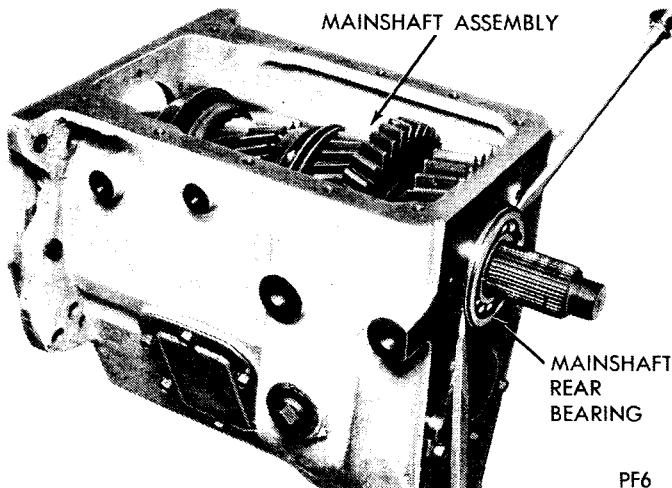
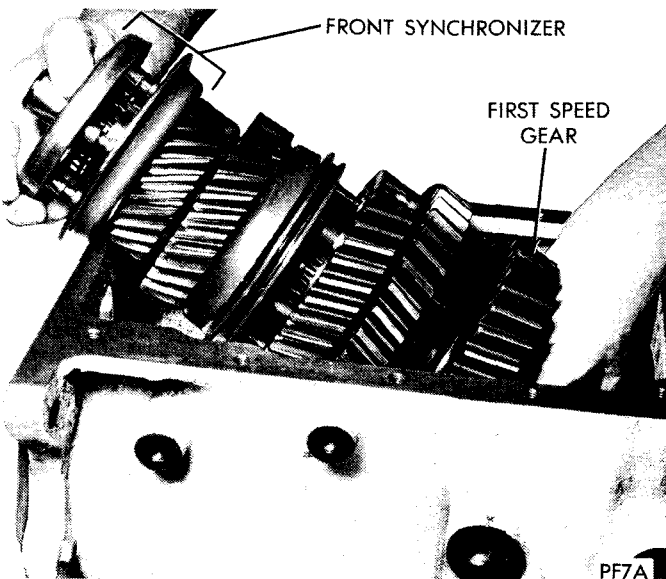

Fig. 5—Removing Rear Bearing from Mainshaft
Fig. 6—Installation or Removal—Mainshaft Assembly
(1) Remove speedometer drive pinion, and mainshaft rear bearing retainer.
(2) Place a brass drift in front center of mainshaft and drive mainshaft to rear.
(3) Pull bearing from mainshaft using a suitable puller, or pry out, using two large screwdrivers (Fig. 5).
(4) When mainshaft rear bearing has cleared case, remove rear bearing and speedometer gear with a suitable puller.
(5) Move mainshaft assembly to rear and tilt front of mainshaft up.
(6) Hold first and reverse gear and fourth and fifth speed synchronizer to keep them from sliding off mainshaft while lifting assembly out top of case (Fig. 6).